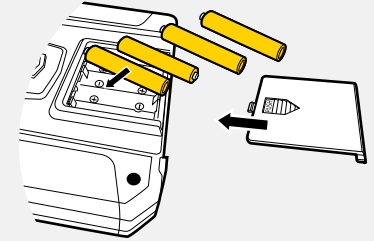

Fig. 22
13. Insert the batteries (see [Fig. 22]).